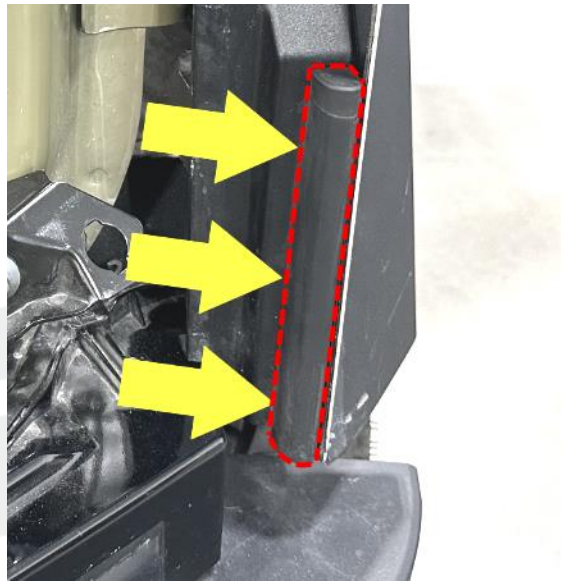

Figure 2 - LH shown; RH similar
2. Use a prytool to release the clips (x3) that attach the LH side apron seal to the side apron assembly (Figure 2). Remove and discard the seal, and then repeat this step on the RH side apron seal.